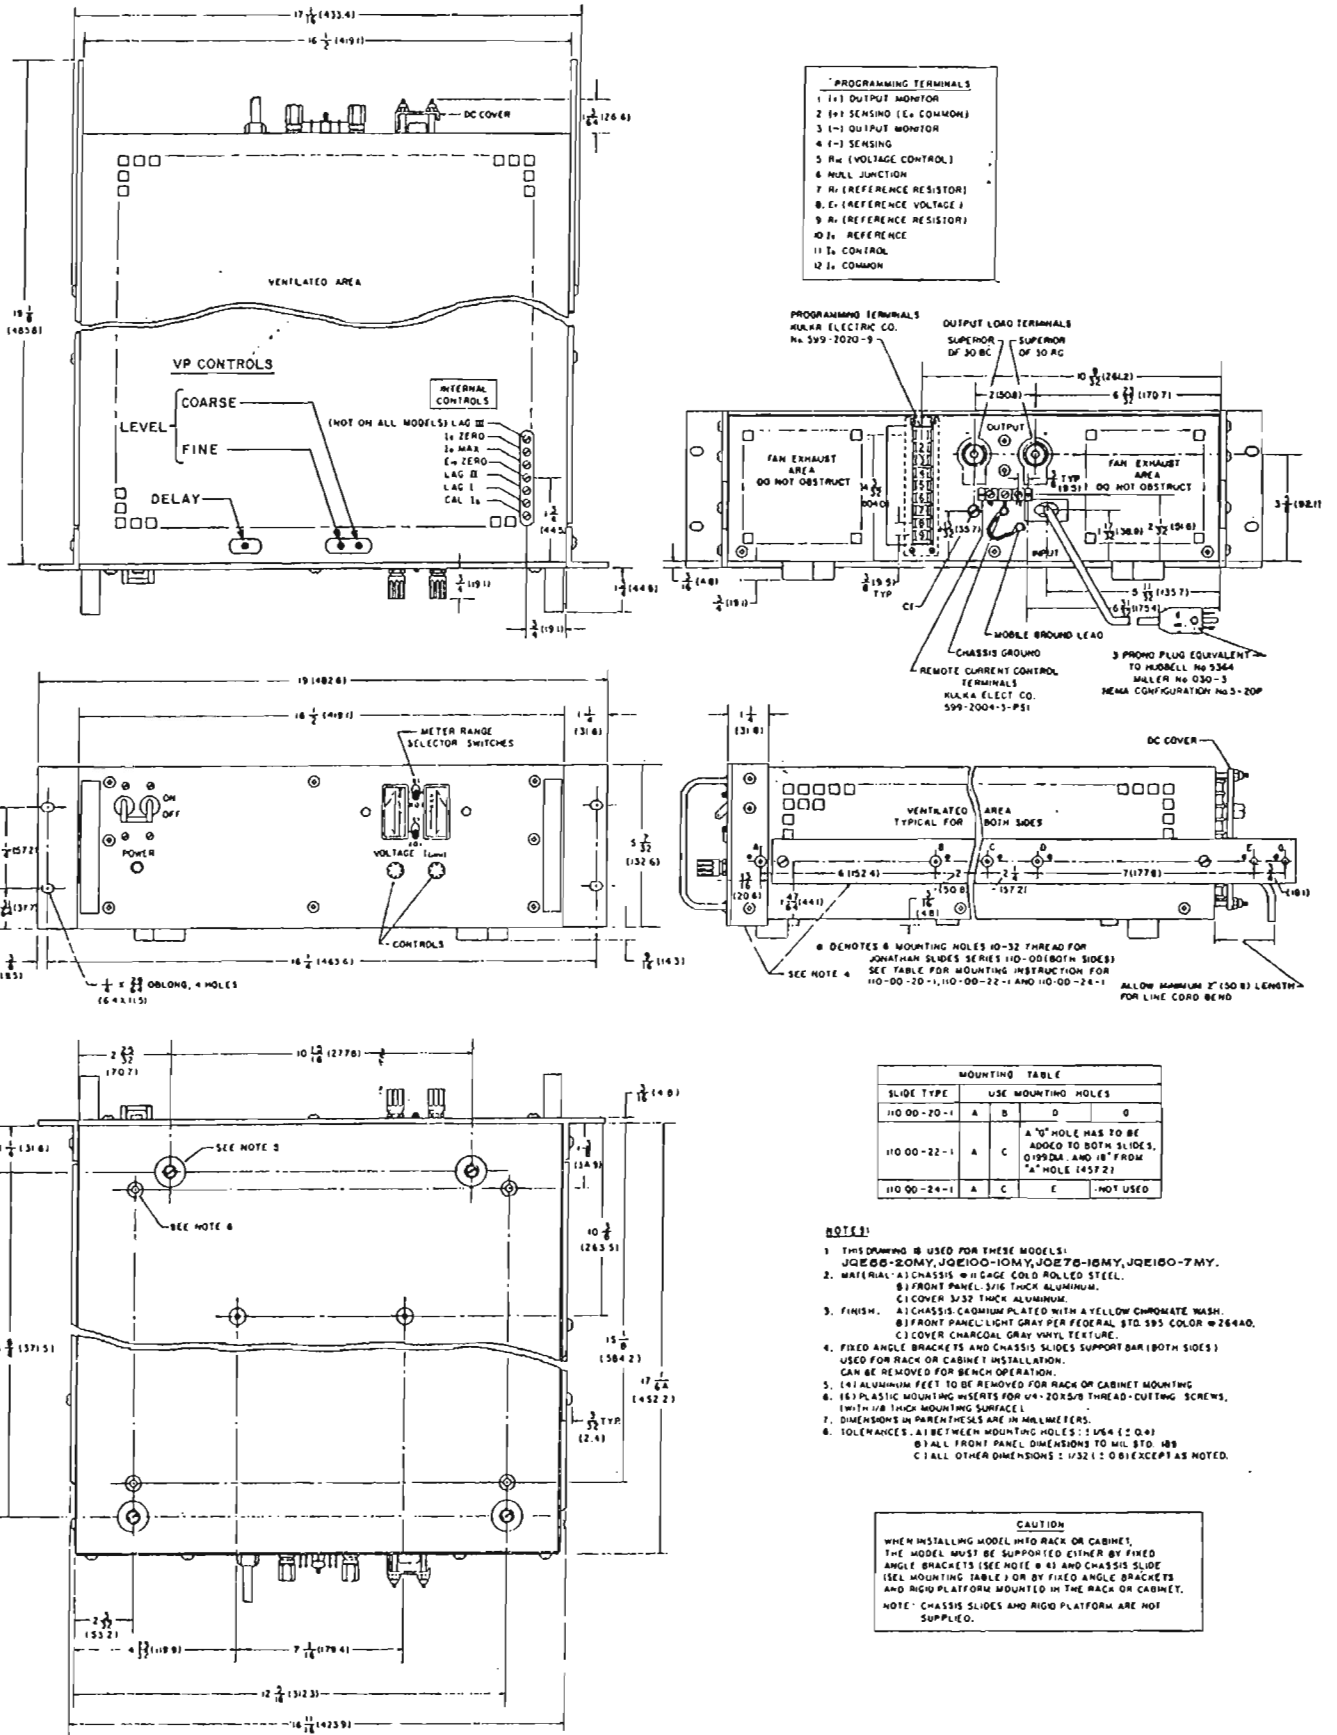

FIG. 1-3 MECHANICAL OUTLINE DRAWING
- 1-6 JQE power supplies are identical in their mechanical dimensions (Refer to FIG. 1-3) and in their electrical specifications, except as noted in TABLE 1-1.
- 1-8 The main chassis frame of the power supply is constructed from cold-rolled steel, as is the perforated wrap-around cover. Front panel material is aluminum (Refer to FIG. 1-3 for finish).
Refer to "Mechanical Outline Drawing" (FIG. 1-3). Four (4) aluminum feet are provided for bench operation of the supply. Feet are removeable for rack-mounting. Adaptor brackets for mounting the supply into a standard (19-inch) rack are supplied. Refer to FIG. 2-5 for installation instructions.
- a) DIMENSIONS AND FINISH: Please refer to the "Mechanical Outline Drawing," FIG. 1-3.
The JQE Power Supply is designed for chassis mounting directly into existing installations. For mounting hole dimensions and lay-out see FIG. 1-3 ("Mechanical Outline Drawing"). If the unit must be mounted into confined spaces, refer to paragraph 2-6 ("COOLING").
- 4) If Jonathan Slide 110 QD-24-1 is used, an additional hole must be drilled into the slide. See FIG. 1-3 for further information.
- a) CHASSIS SLIDES. The JQE is equipped on its sides with FILLER BRACKETS, which are pre-drilled for a number of "JONATHAN" slide types. (See Section I, FIG. 1-3.)